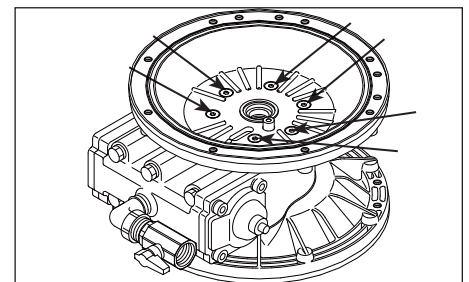

Figure 22
- Remove the 12 retainer bolts from the air chamber and remove the air chamber (See Figure 22).